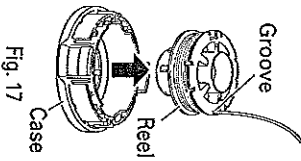

Fig. 17
- (3) Remove the reel from the case. (Fig. 17)